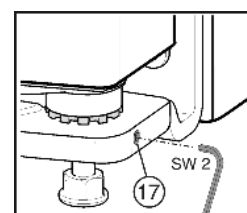

Fig. 12
- Extend the threaded pin Fig. 12 (17) a little (by one turn at most!).
- Tighten the threaded pin Fig. 12 (17) again to secure the bearing pin.